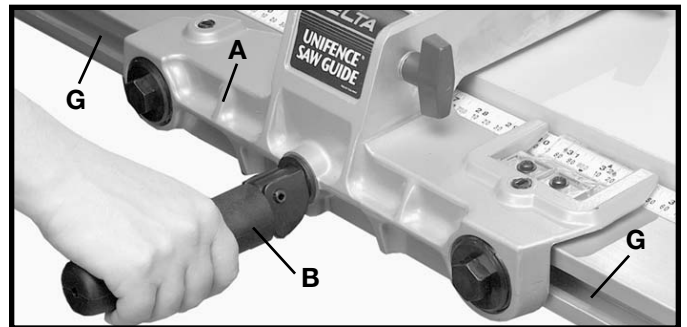

Fig. 63
2. Place fence body (A) Fig. 63, onto the guide rail as shown, making sure clamp bracket is inserted into channel (G) on rail. Notice that the clamp handle (B) is turned to the left indent position.